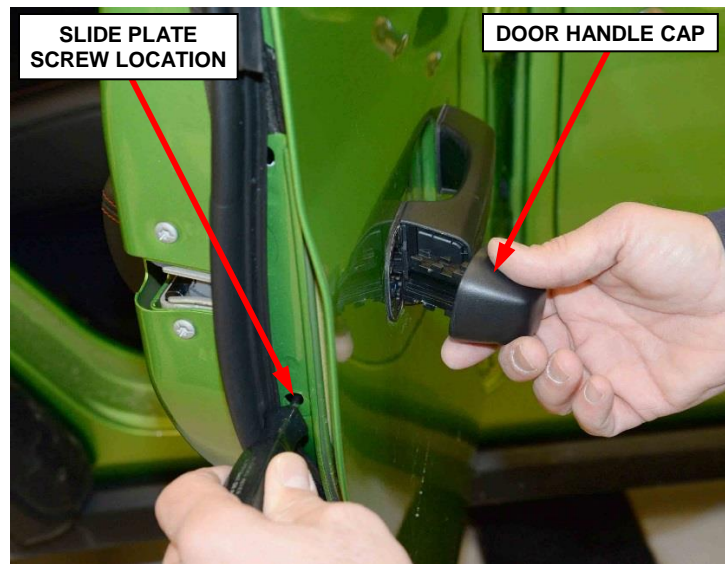

Figure 4 – Door Handle Cap
7. Using a suitable tool, turn the screw counter-clockwise to move the slide plate forward in the outside door handle bracket. Do not attempt to remove the slide plate screw (Figure 4).
8. Continue to turn the screw while lightly pulling on the door handle cap until the cap is removed (Figure 4).